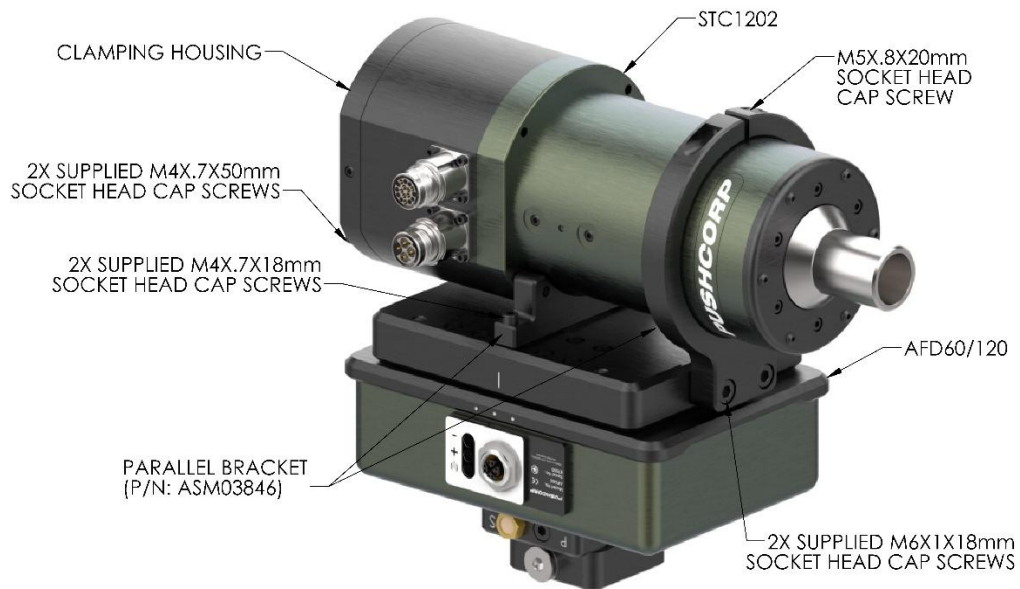

FIGURE 3: PARALLEL MOUNT - AFD120/60
The parallel-axis configuration with the AFD120/60 is shown in Figure 3, where the motor attaches to the AFD Carriage with a hoop bracket and foot bracket. The hoop bracket is positioned onto the front of the carriage and attached using the two (2) supplied M6x1x16mm socket head cap screws. The motor is then attached to the foot bracket, as shown, with two (2) M4x1x50mm socket head cap screws mounted at the front of the motor housing. The foot bracket is then mounted to the carriage via two (2) M6x1x18mm socket head cap screws. Finally, tighten the M5x.8x20 cap head screw at the top of the hoop bracket. The fasteners must be tightened to the torque specified in Section 4.0.